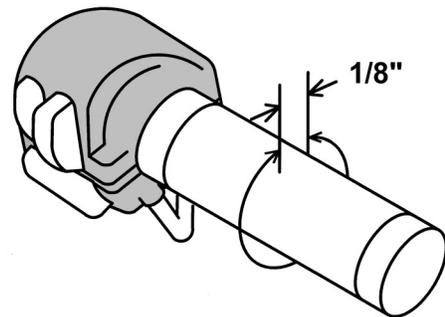

Figure 4: Throttle free-play
- Turn the handlebar to the right and adjust the throttle free-play with the closing cable adjuster to approximately 1/8" (see Figure 4).